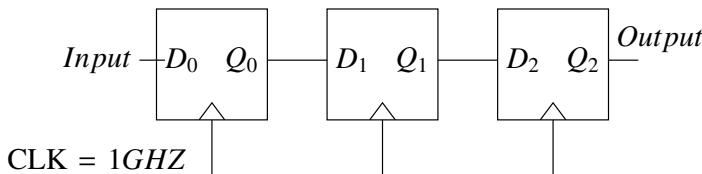

Fig. 5.8
8. The synchronous sequential circuit shown below in Fig. 5.8 works at a clock frequency of 1GHz . The throughput, in Mbits/s , and the latency, in ns , respectively, are